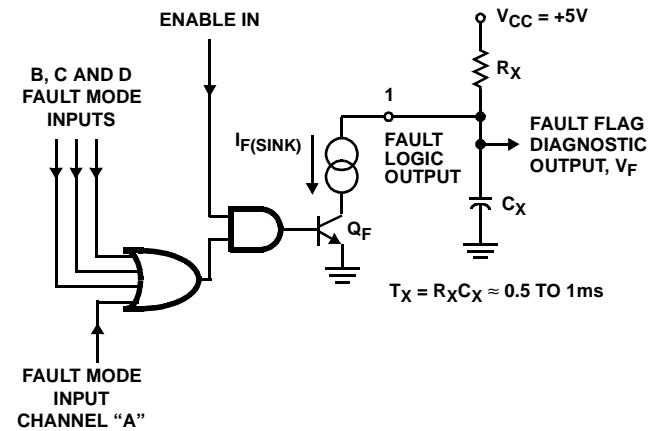

FIGURE 2. EXTERNAL FAULT OUTPUT CIRCUIT AND I_{F(SINK)} AS FAULT SINK PULLDOWN CURRENT, WHICH IS ACTIVATED BY TRANSISTOR, Q_F, WHEN A FAULT EXISTS
- The I_{OL} value of "Output Low Current, $I_{F(SINK)}$ " at the FAULT pin is both the static leakage of the output driver Q_F and the current sink, $I_{F(SINK)}$. The current sink is active only when a fault exists. When no fault exists, the I_{OH} current at the FAULT pin is the maximum leakage current, $I_{F(LK)}$. Refer to Figure 2 for an illustration of the FAULT output and associated external components. Refer to FAULT LOGIC TABLE for Fault Modes.
- The Voltages, V_{HTHD} , V_{LTHD} are the comparator threshold reference values (Min. and Max. Range) sensed as a high and low state transitions for voltage forced at the outputs. V_{HTHD} indicates an open load fault when the output is decreased to less than the threshold. V_{LTHD} indicates a shorted load when the output is increased greater than the threshold. The output voltage is changed until the FAULT pin indicates a Low (Fault). Refer to Figure 2 for test value of external resistor. Refer to I_{OL} and I_{OH} FAULT PARAMETERS Test Limits to determine V_{OL} and V_{OH} at the FAULT pin.
Since a diagnostic flag indicates when an output is shorted, this information can be used as input to a microprocessor or dedicated logic circuit to provide a fast switch-off when a short occurs and, by sequence action, can be used to determine which output is shorted. A fault condition in any output load will cause the FAULT output to switch to a logic “low”. Since a fault condition may be detected during switching, use of an appropriate size capacitor to filter the FAULT output is recommended. The recommended FAULT output circuit is shown in Figure 2. This will prevent the FAULT output voltage from reaching a logic level “0” within the maximum switching time.
The FAULT output diagram of Figure 2 shows the circuit component interface for sensing a diagnostic fault condition. As noted, the time constant of $T_X = R_X C_X$ should be greater than the ON-OFF output switching times to avoid false fault readings during switching. For applications requiring fast period repetition rates, the maximum time constant should be significantly less than the period of switching. The shortest practical time constant is preferred to limit the duration of a fault condition.